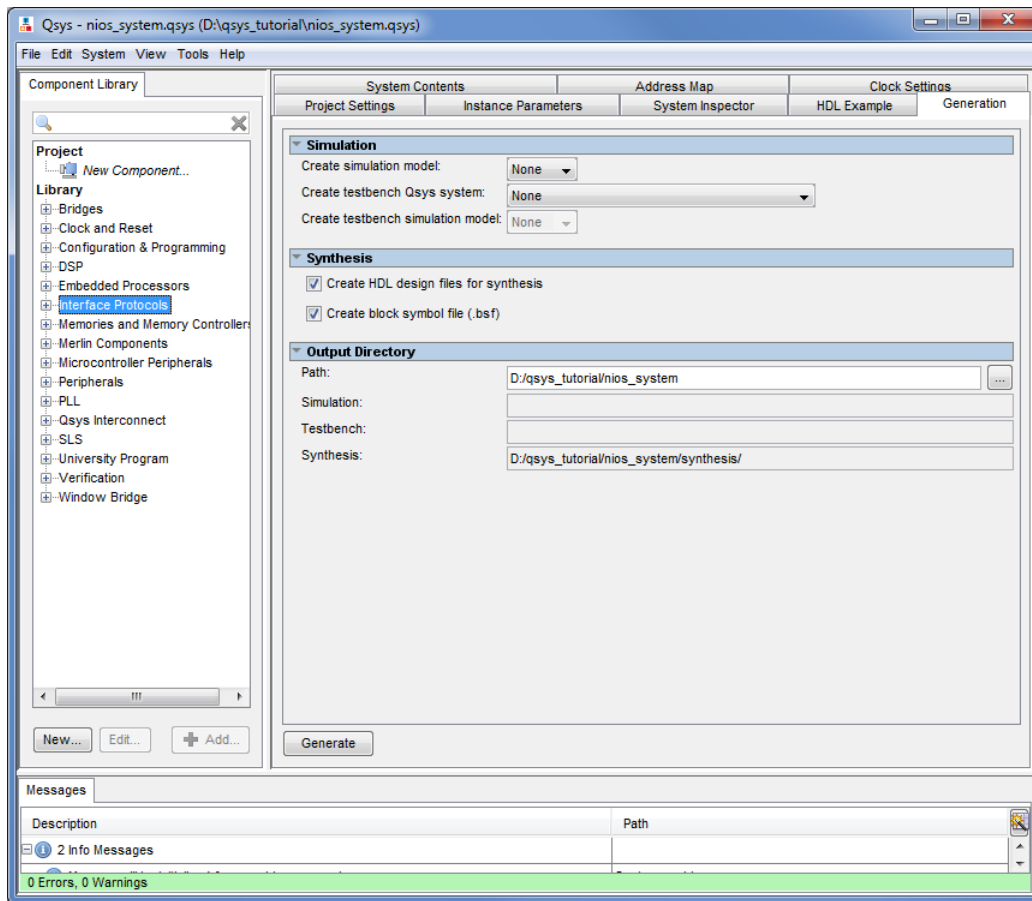

Figure 20. Generation of the system.
- Having specified all components needed to implement the desired system, it can now be generated. Save the specified system; we used the name *nios_system*. Then, select the **Generation** tab, which leads to the window in Figure 20. Select **None** for the options **Simulation > Create simulation model** and **Simulation > Create testbench Qsys system**, because in this tutorial we will not deal with the simulation of hardware. Click **Generate** on the bottom of the window. When successfully completed, the generation process produces the message "Generate Completed".